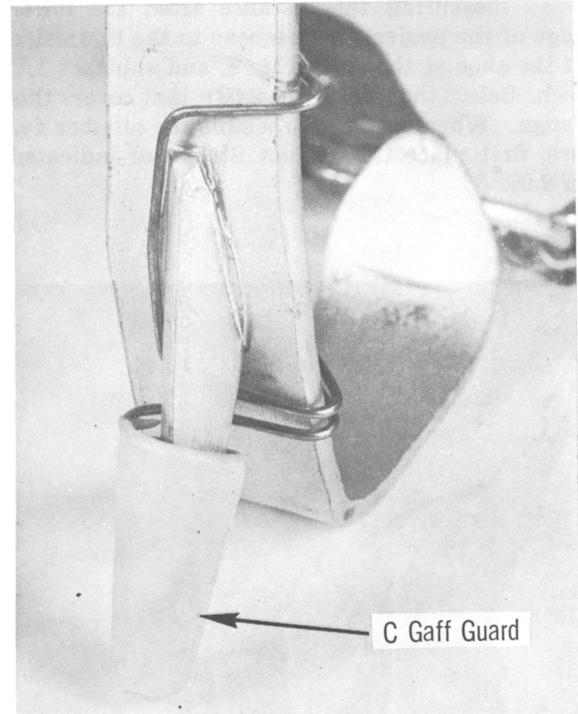

Fig. 7 – C Gaff Guard Installed
2.07 Gaff guards are used to protect gaffs and workmen when climbers are not being used. They also protect other tools from damage that are stored in vicinity of climbers. Fig. 7 illustrates a gaff guard installed.